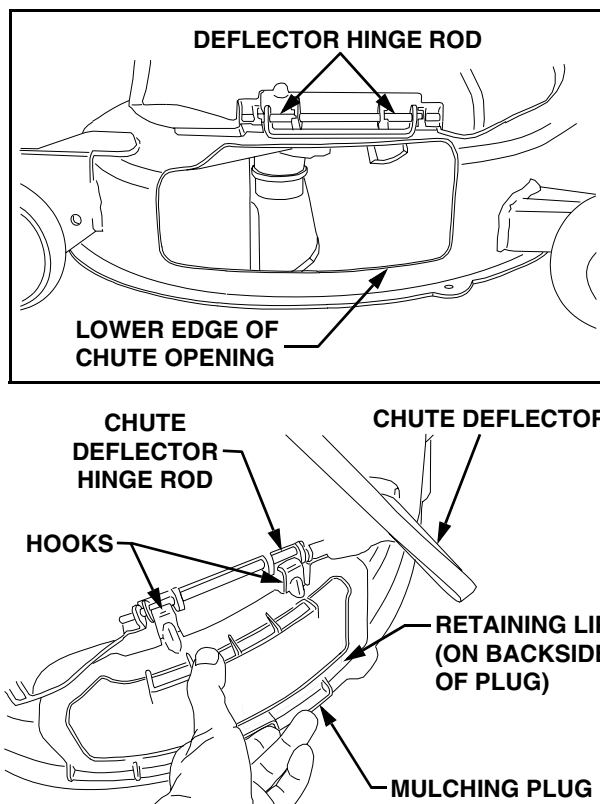

Figure 57
2. Lift and hold the chute deflector in the upward position (Refer to Figure 57).
3. Position the mulching plug so that the retaining lip on the backside of the plug partially interlocks with the lower edge of the deck chute opening; then rotate the top of the plug upward so that the hooks engage the deflector hinge rod (Refer to Figure 57).